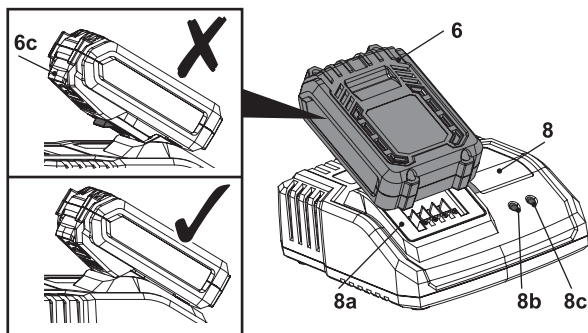

Fig. 5
- 2. Align the battery pack (6) to the charging slots (8a) and slide it until it locks in place (Fig. 5).
- Keep the charger in position with one hand. Press the unlocking button (6c) (Fig. 5) and pull the battery pack out.